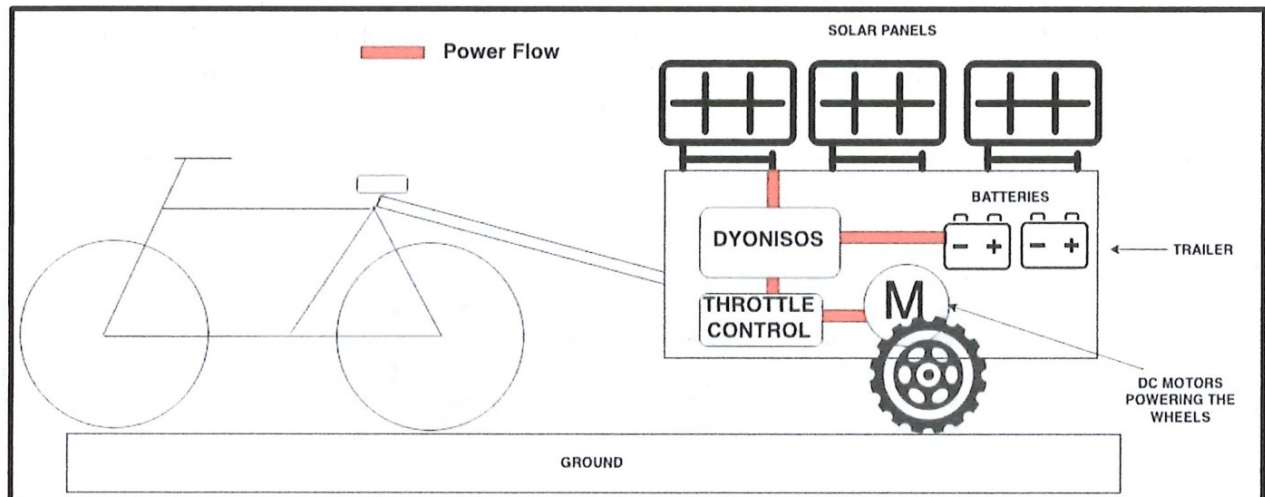

Figure 4 - E-Bike Trailer Concept
(2) Dyonisos will serve as the energy managing system for a student constructed Electric Bike Trailer. This solar powered trailer can be attached to any existing bicycle to make it into an electric bike. Once again, it will rely on solar panels and lead-acid batteries, interfacing those elements through Dyonisos. This will provide advertising for WWU and Dyonisos, raising awareness on alternatives ways of transport and hopefully inspiring future students regarding renewable systems. Figure 4 illustrates this project.